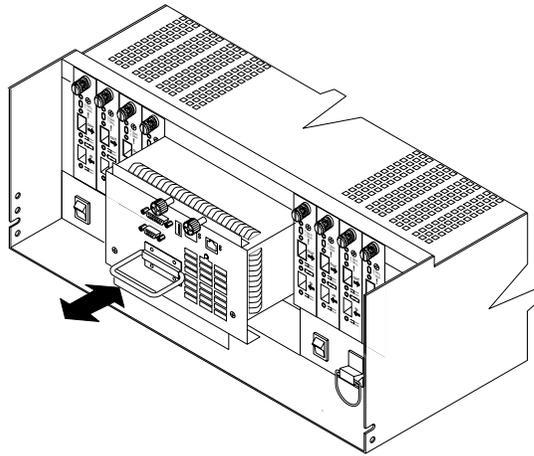

Figure 42. Removing and installing a fan and communications module
The fan and communications module is a single, removable unit containing two cooling fans and two Ethernet ports. This module plugs into a slot at the center back of the FAStT700 Storage Server, just above the power supplies (see Figure 42 on page 44). It has a locking lever and a pull handle for securing and removing the fan and communications module. The module contains dual fans that provide a redundant cooling system to both power supplies. If one fan within the module fails, the other continues to operate. A single fan provides sufficient air circulation to prevent the power supplies from overheating until you can replace the entire fan and communications module.
2. Using Figure 42 on page 44 as a guide and use the following steps to remove the failed fan and communications module from the FAST700 Storage Server.